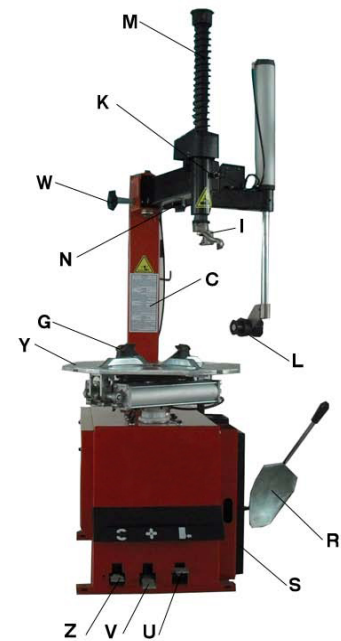

Fig 4
2. Move demounting/mounting head close to edge of rim, keep a 2-3mm gap between demounting/mounting head and rim plane, operate locking handle (K, Fig 4) to lock vertical arm, adjust screw bolt in column to position swing arm, make sure 2-3mm gap between demounting/mounting head and rim edge side